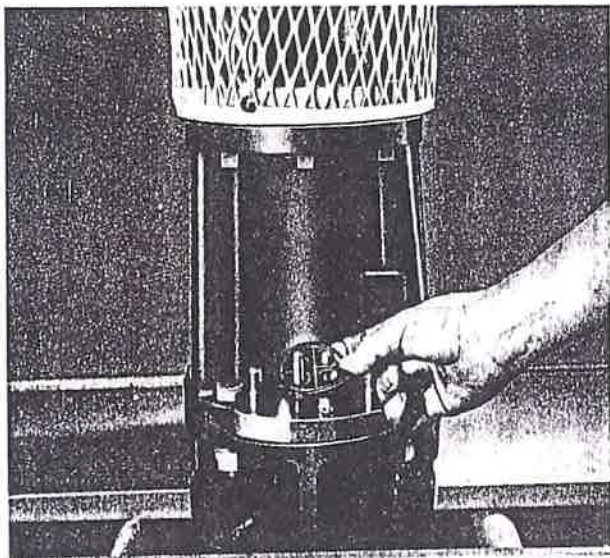

Figure 15 — Installing Terminal Box Gasket (Flat-Faced Type Shown)
1. Unreel a sufficient length of cable to pass the bowl assembly, elevating the cable to the approximate height to fasten the terminal box (182) to the motor. Verify that the cable is not kinked. **DO NOT STRETCH THE CABLE.**
3. Refer to Figure 15. Depending on configuration supplied:
- (a) For flat faced (no rabbet fit) gland plate, install gasket (744-10) over terminals (019).
- (b) For gland plate with rabbet fit, first install gasket (744-11) over rabbet fit on gland plate (111), then install gasket (744-10) over motor terminals (019).
- (c) For "all metal" terminal box, install O-Ring (also identified as 744-11) on rabbet fit of gland plate (111).
4. Remove shipping cap (023) from the cable terminal box (182).
5. Slide the metal terminal box clamp (180) up the flat cable and off the terminal box (182), loosening the clamping screws (806) if necessary.